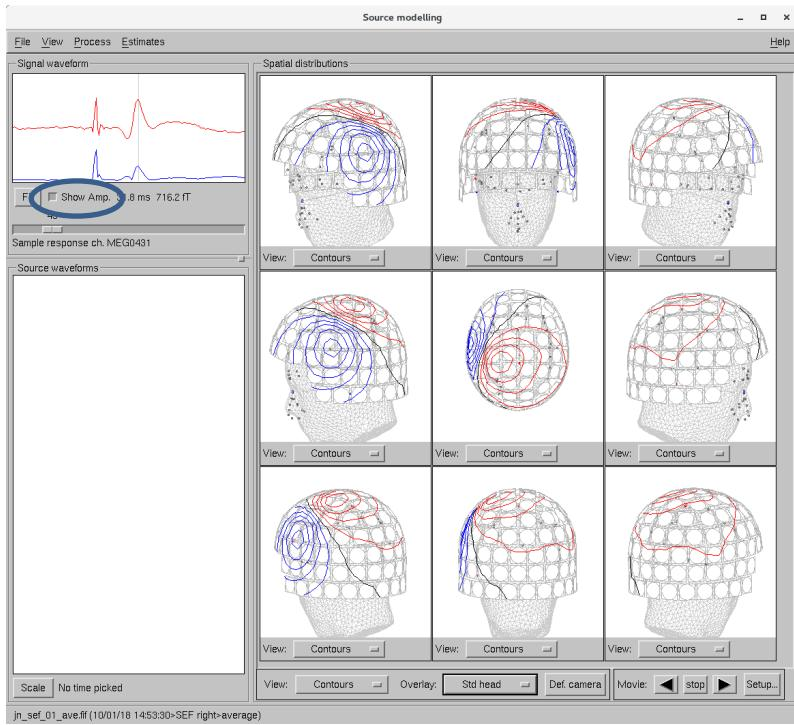

Figure 32. *Xfit* user interface main display shows nine views of MEG contours, here overlaid with the standard head surface and isotrak points.
- *Xfit* user interface is shown in Figure 32; see the *Source Modelling Software User’s Guide* for the details of the controls and display areas.
- Enable **Show amp.** to display the blue RMS amplitude curve (encircled in Figure 32).